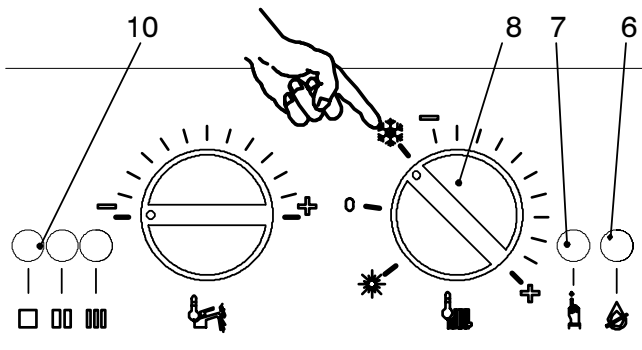
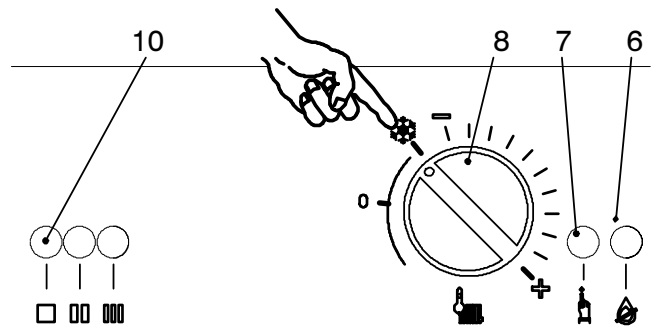

Fig. 7.3
Fig. 7.4
- 2 Turn the function selector 8 as in Fig. 7.3 (combi) or Fig. 7.4 (c.h. only). The appliance operation light 10 will flash every 2 seconds.
To reset the boiler press and release the boiler reset button 7 (Fig. 7.3).